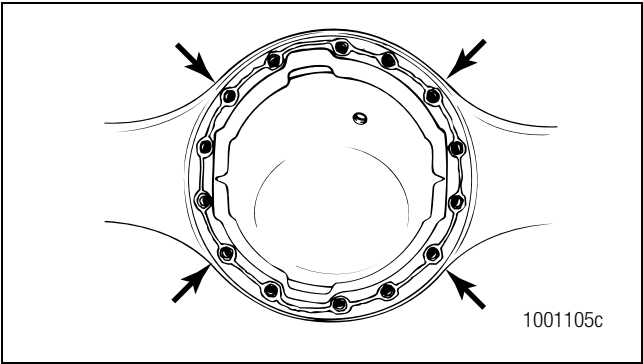

Figure 5.81
7. Install nuts and washers or capscrews and washers, if equipped, into the four corner locations around the carrier and axle housing. Hand-tighten the fasteners. Figure 5.81.
8. Carefully push the carrier into position. Tighten the four fasteners two or three turns each in a pattern opposite each other. Figure 5.81.